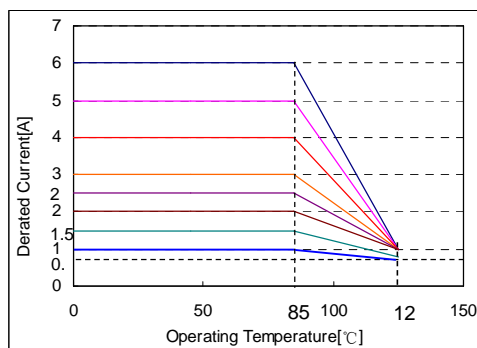

**Fig. 5.3.3-1**
- Definition of Rated Current ( $I_r$ ):  $I_r$  is direct electric current as chip surface temperature rose just 20°C. against chip initial surface temperature( $T_a$ ). (see **Fig. 5.3.3-2**):